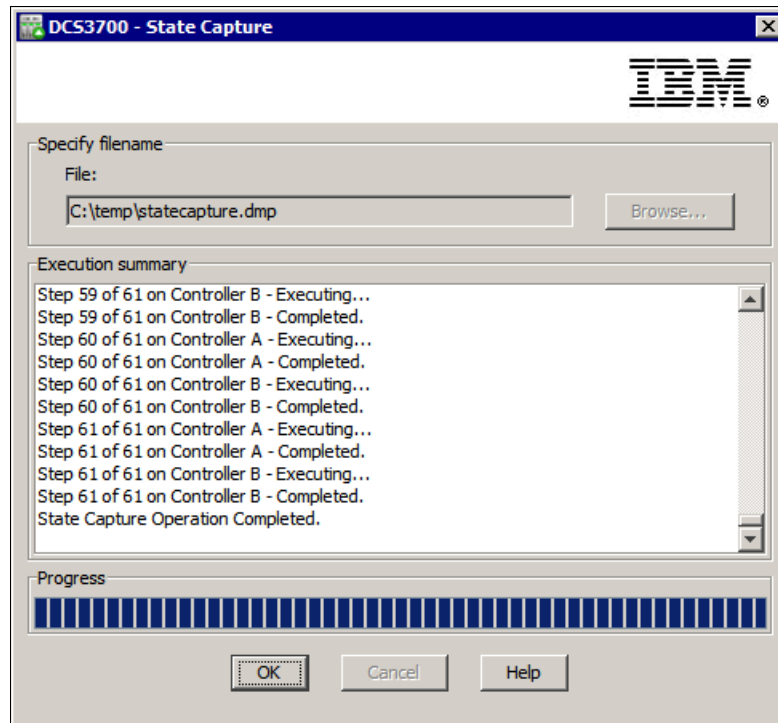

Figure 13-22 State capture completed
3. Figure 13-22 shows that the State Capture window after the state capture information is saved to a file.